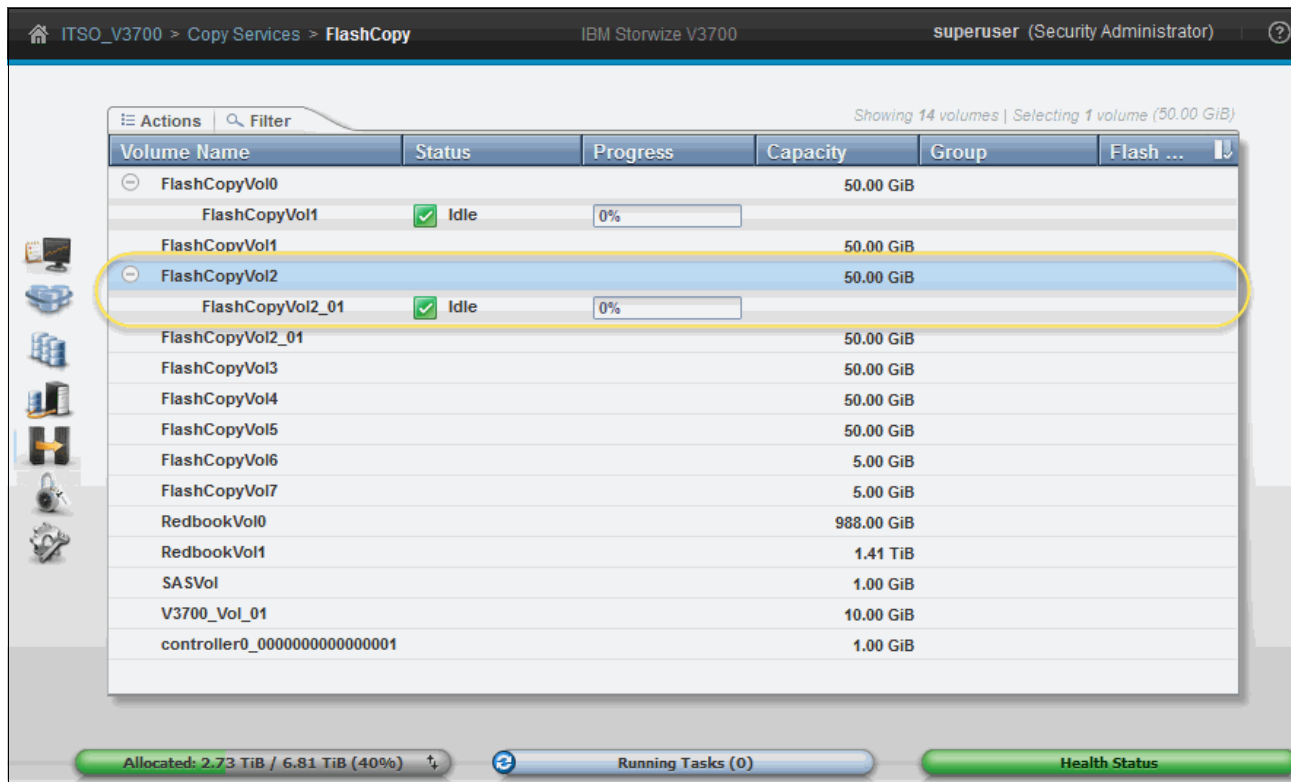

Figure 10-23 New FlashCopy mapping is created with a new target
- Click **Close** to see the FlashCopy mapping created on your volume with a new target, as shown in Figure 10-23. The status of the newly created FlashCopy mapping is Idle. It can be started, as described in “Starting a FlashCopy mapping” on page 486.